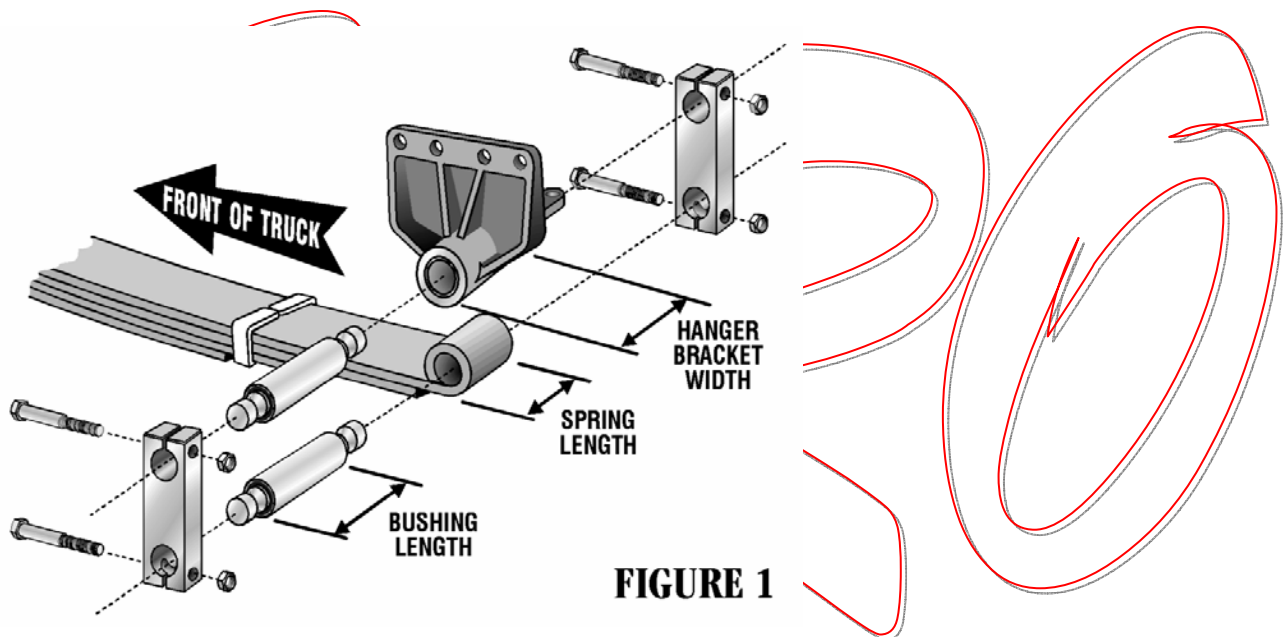

FIGURE 1
3. Measure the leaf spring width to make sure this matches the URO® Shackle Bushing length (Refer to Figure 1).
4. Measure the frame hanger bracket width to make sure this matches with the URO® Shackle Bushing length (Refer to Figure 1).